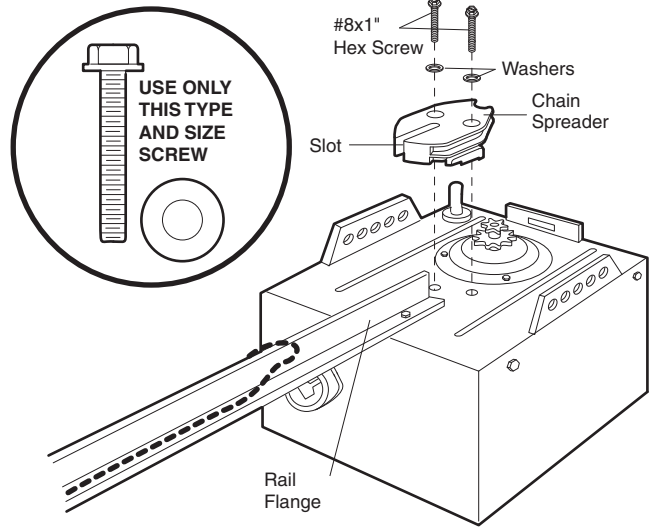

Figure 1
- Line up the holes in the chain spreader with the holes in the motor unit as shown. The slot in the chain spreader must fit over the Rail flange (Figure 1).